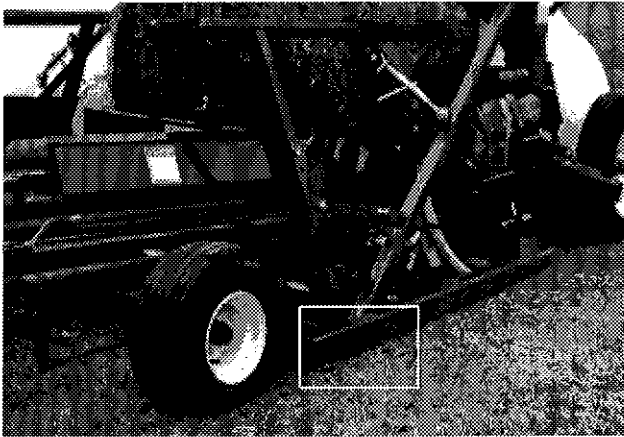

Figure 19
- 4) Adjust front wheels elevation in order to maintain a front ground clearance of approximately 3" (7.6 cm). (Fig. 19)